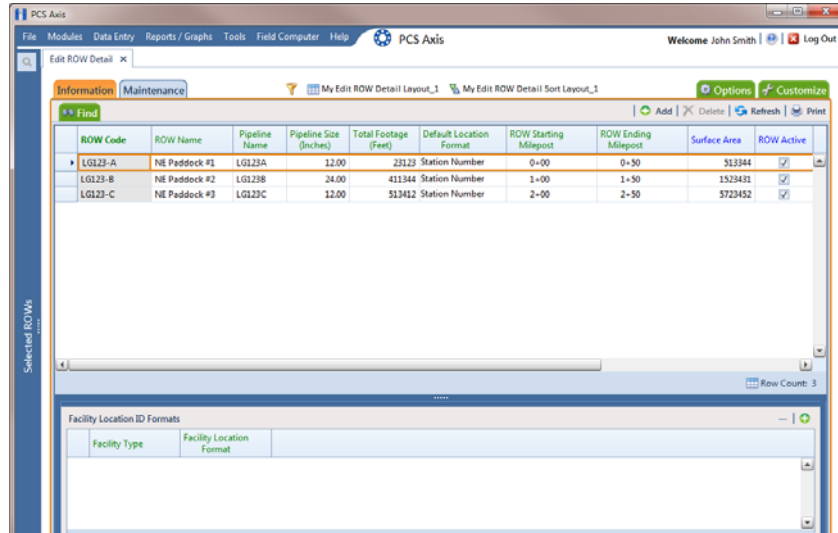

Figure 4-17. Row Detail Information Grid
- 2 Open *Edit ROW Detail*. Click **Data Entry** > **Edit ROW Detail** (Figure 4-17).
- 4 Click the **Maintenance** tab **Maintenance** to open the *Maintenance* grid (Figure 4-17).